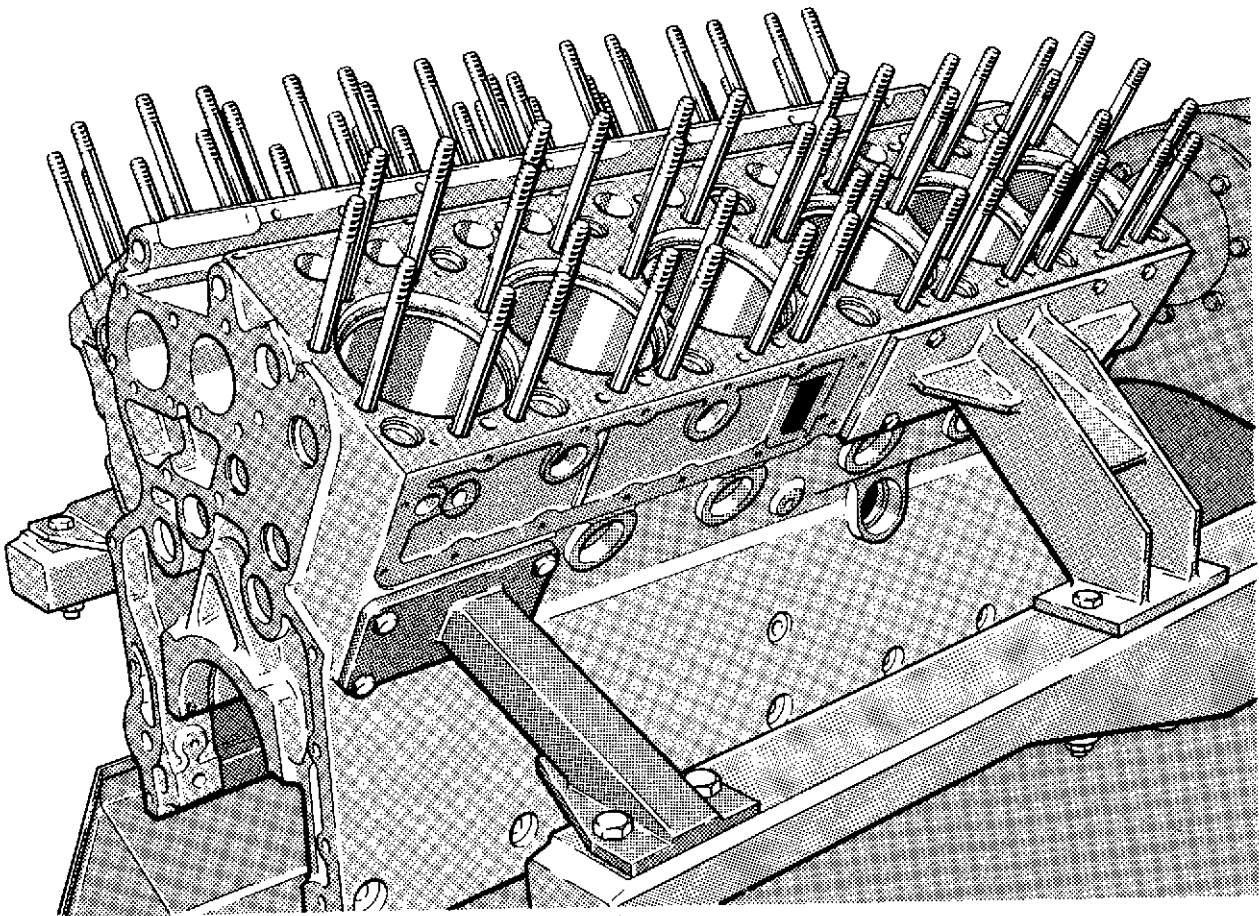

Fig. 1 Crankcase in build stand
- 1 Bolt the four mounting brackets to the crankcase, (see 'SPECIAL TOOLS' at end of Section), and secure the Lifting Plate, VP 7862, in the crankcase 'V'. Using a suitable hoist, position the crankcase in the Build Stand, VT 5908, with the gear train end facing outwards, as shown in figure 1. Fit the eight retaining bolts through the arms of the build stand, screw the nuts on and tighten securely. Turn the crankcase over so that the sump joint face is uppermost.